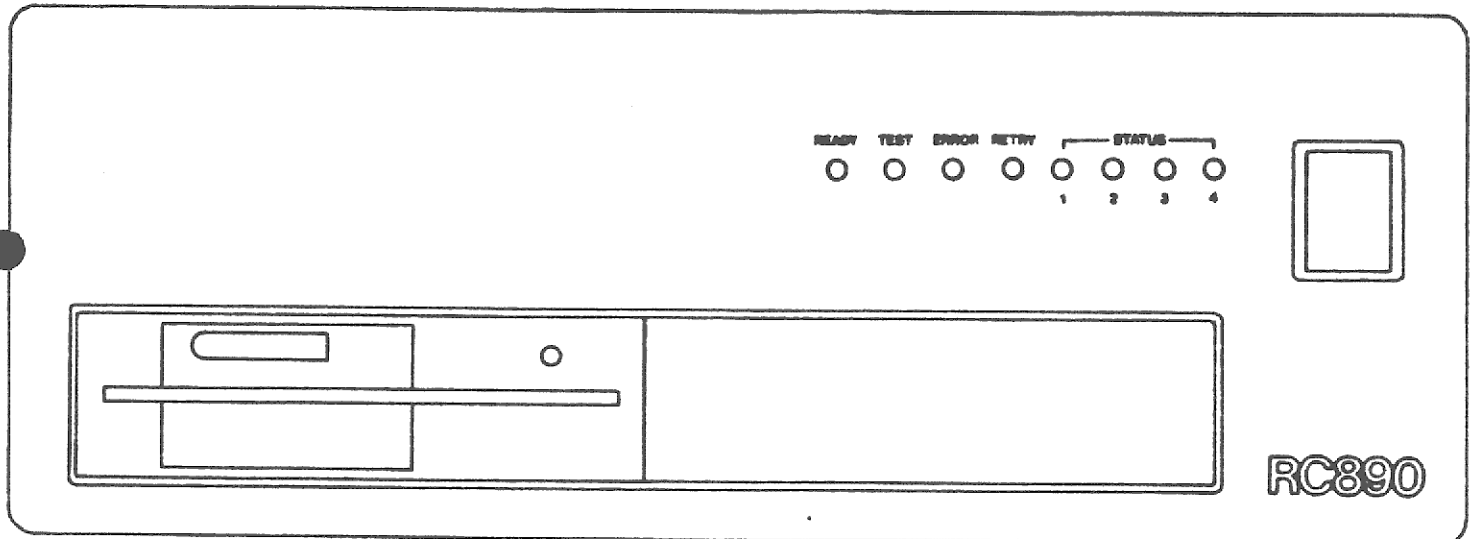

Fig. 1. RC890 Control Unit, Front Panel
The front panel of the RC890 control unit (CU) is of primary interest to the RC890 operator. The front panel contains a diskette drive, a row of status lamps, and a power switch. Figure 1 shows the front panel of the RC890 control unit.